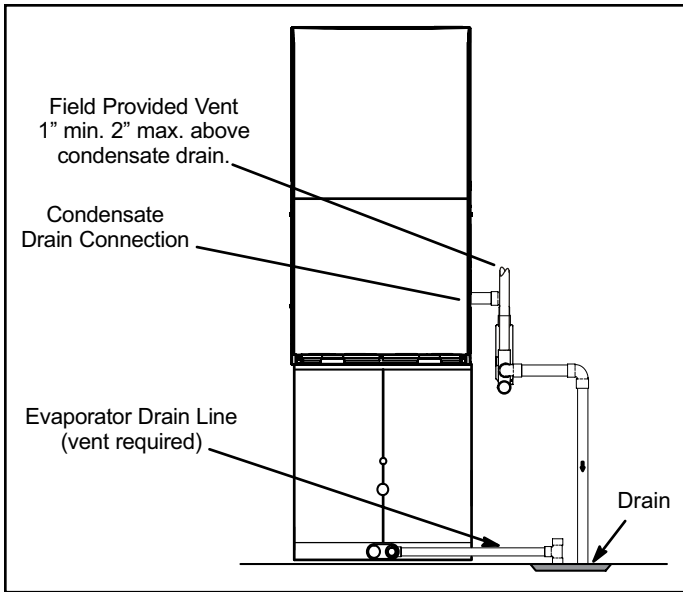

Figure 48. Evaporator Coil Using a Separate Drain
5. Figure 48 shows the furnace and evaporator coil using a separate drain. If necessary, the condensate line from the furnace and evaporator coil can drain together. See Figure 49. The field provided vent must be a minimum 1" to a maximum 2" length above the condensate drain outlet connection.